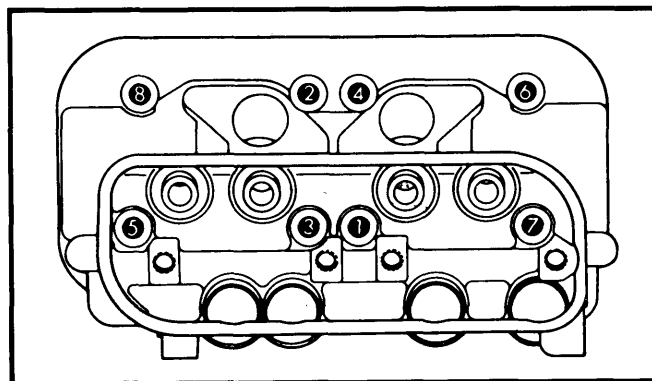

Fig. 1 Cylinder Head Bolt Tightening Sequence
**Installation** — 1) Remove metal gasket rings from combustion chambers and inspect head. Place new metal gasket rings in peripheries of combustion chambers and install head over cylinder studs. Tighten head to specifications in 2 steps according to sequence shown in Fig. 1.